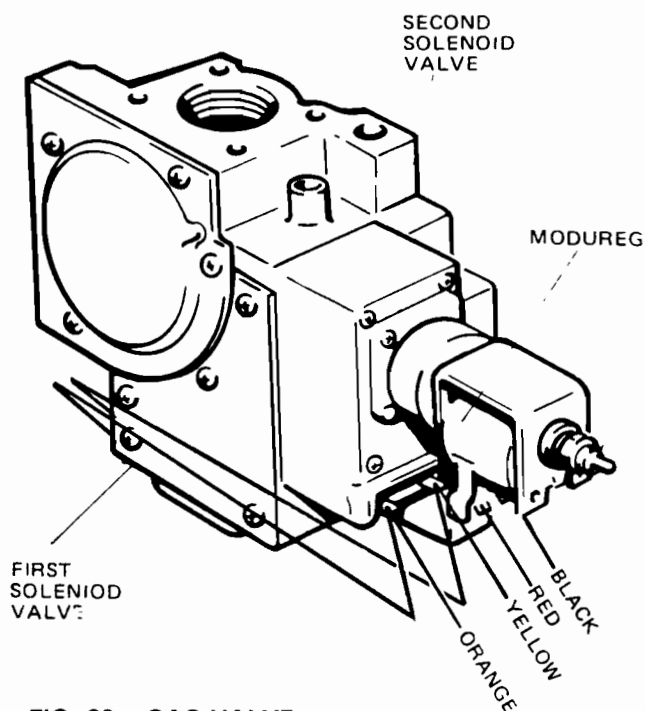

FIG. 36a GAS VALVE
i) Reassemble in reverse order. Before fitting the valve into position, connect the two spade connectors (yellow and orange wire) to the first solenoid, polarity is not important (see Fig. 36A). Recommission appliance as in commissioning procedure.
20. MODUREG COIL (see Fig. 36A)
21. SECOND SOLENOID VALVE (see Fig. 36A)